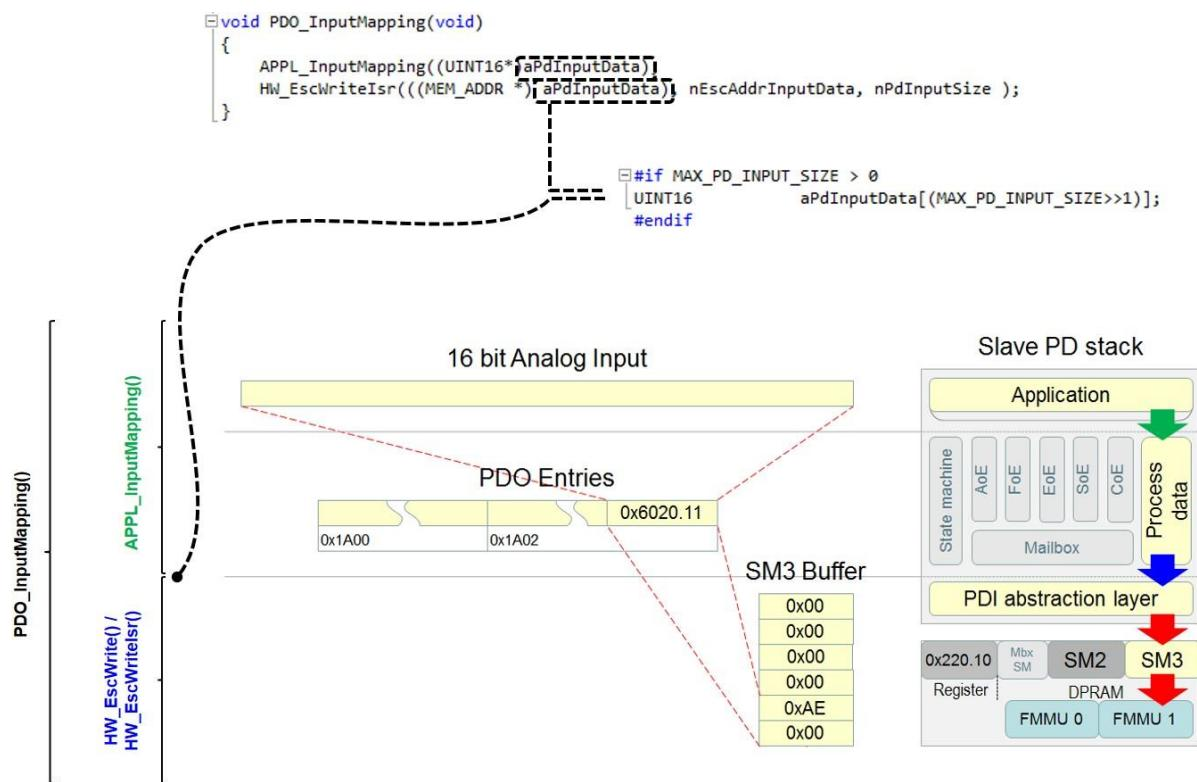

Figure 7: EL9800 Application Input Mapping
3. PDO_InputMapping() : handles the data from the slave to the master, e.g. EL9800 application, Figure 7)